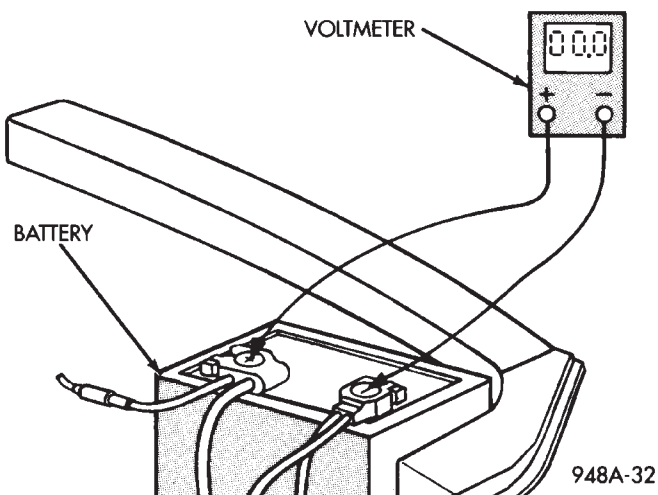

Fig. 3 Battery Voltage Test
- (1) Start engine.
- (2) Place heater blower in high position.
- (3) Turn on headlamps and place in high-beam position.
- (4) Turn vehicle interior lamps on.
- (5) Start engine. Bring engine speed up to 2400 rpm and hold.
- (6) Testing (+ positive) circuitry:
- (a) Touch the negative lead of voltmeter directly to battery positive **POST** (Fig. 3).
- (7) Testing (- ground) circuitry: